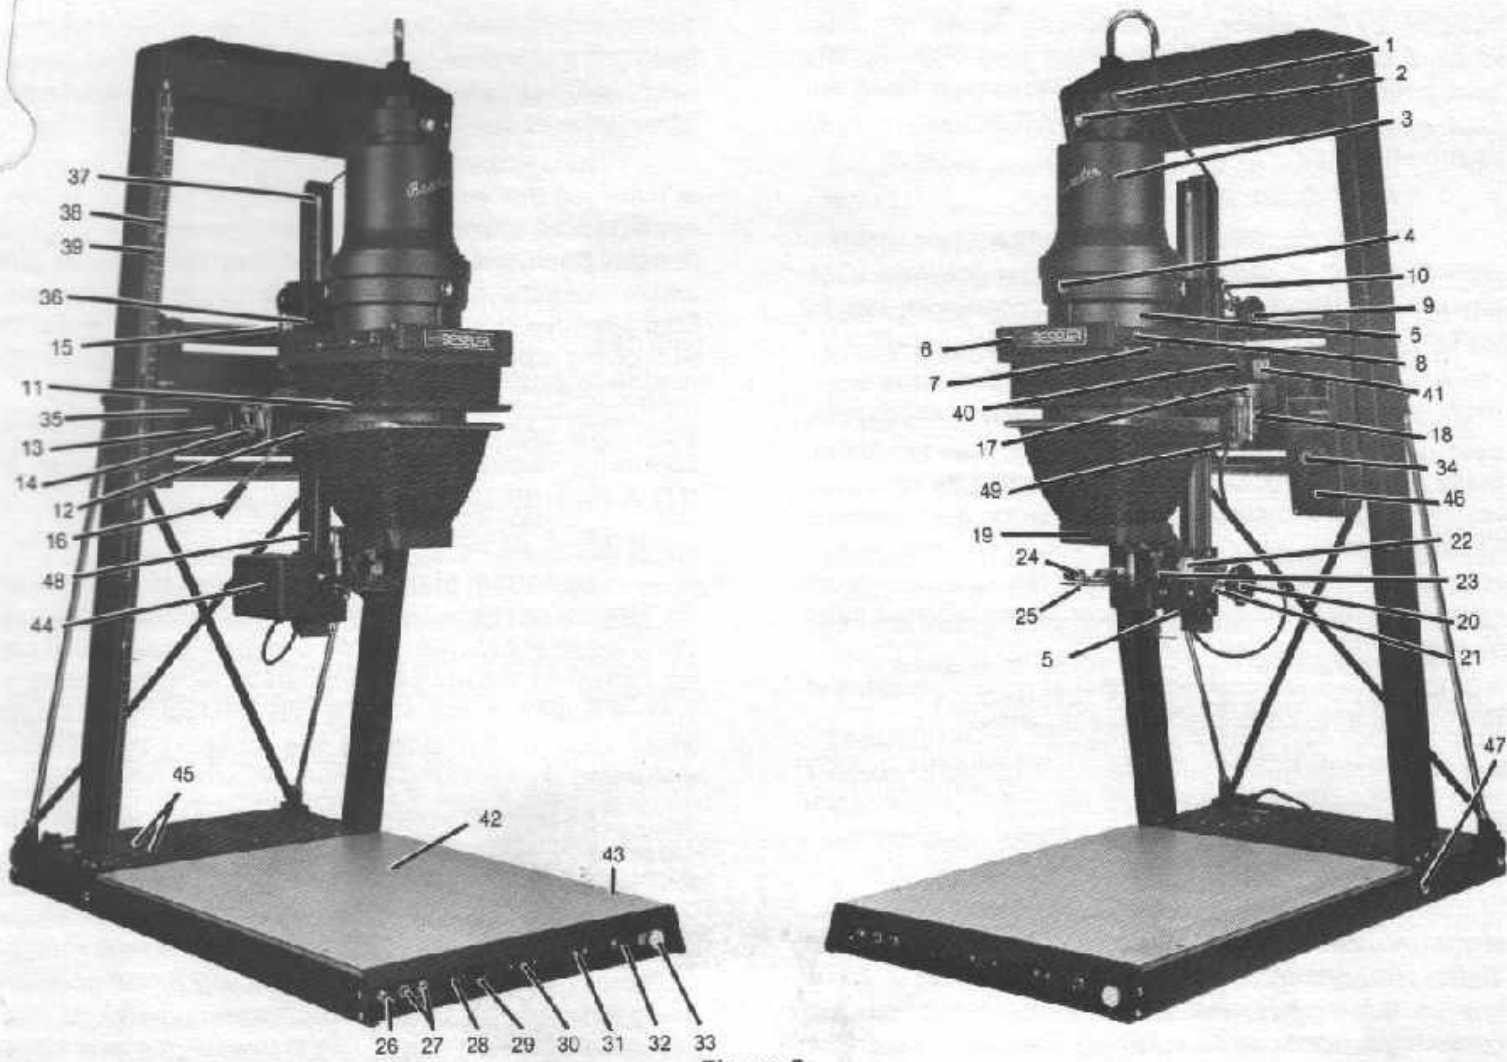

Figure 5.
- (1) Note that the ends of the two side rails which form the base frame assembly are slotted.
- (2) Insert two of the truss head screws (from the hardware kit) in the rear threaded holes (47, Fig. 5) below the rear struts (one on each side). Do not tighten these yet. Leave about $\frac{1}{4}$ " space under the head, so that they can accept the slotted ends of the side rails.
- (3) Hold the base frame assembly approximately vertical and slip the slotted ends over the screws which were previously inserted (step 2).
- (4) Align the other holes in the base frame with those in the vertical frame assembly and insert the other two truss head screws.
- (5) Tighten all four screws.
- (6) You will notice on each side of the base frame an electrical harness, terminating in a square plastic plug. Plug each of these into the corresponding socket of the base pan assembly.
- (7) Raise the vertical frame (with the base frame now attached) to its normal upright position.
Note that the back of the focusing track (48, Fig. 5) has three threaded holes. Note also that the front of the carriage has two projections, the upper one containing a slot and a hole. The slot permits hanging the focusing track assembly so that it is supported, while the other two mounting screws can be inserted from the rear. These are the two extension screws (included in the hardware kit).
The Condenser Lamphouse (Cat. #8255) comes to you separated into two components, the lamphouse and the condenser housing. Loosen the three lamphouse mounting screws (4, Fig. 5) on the condenser housing and slide the lamphouse into place on top of the housing until it seats itself (the name Beseler should face towards you; refer to Fig. 5). Tighten the lamphouse mounting screws.
Mount the Condenser Lamphouse by pulling the latching bars (8, Fig. 5) forward. Insert the assembly into
the circular opening of the condenser stage (7, Fig. 5) and push the latching bars back.
Note that the condenser housing has a drawer (6, Fig. 5) for accommodating 7" x 7" filters. This drawer contains a transparent filter holder, both sides of which are masked to protect the surface. *Remove this masking material and reinsert the filter holder.*
The principal parts of the enlarger are illustrated and identified in Fig. 5.
(All identification numbers refer to Fig. 5)
These are illustrated and identified in Fig. 5. and described further below.